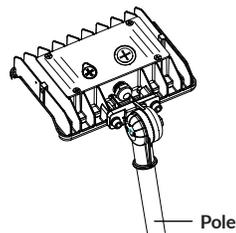

Figure 1-4
- Pole mount: Make appropriate wiring according to the "General Wiring Diagram". Tuck the wires into the pole. Tighten the fixture thread with the pole until securely fasten. (Figure 1-4).